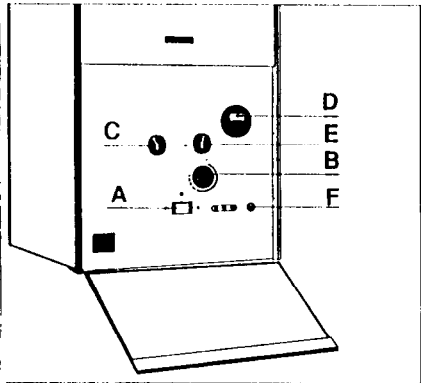

Fig. 1
- 2) Set boiler temperature to maximum (see B, Fig. 1).
- 3) Set the selector switch (A) (Fig. 1) to the required position. To the left for hot water only or to the right for hot water + central heating.
Set the selector switch (A) to the centre position off (O) (see fig. 1). Turn off the electricity supply.
If the red indicator L.E.D. is alight, wait for 1 minute, then press on the manual reset button (F) (Fig. 1).
- Set the boiler thermostat (B) (Fig. 1) as required depending on the desired room temperature. To increase the heat turn to "+", to reduce the heat turn to "-". The temperature gauge indicates the temperature of the water going to the radiators.
PRESSURE GAUGE (C)(Fig. 1)